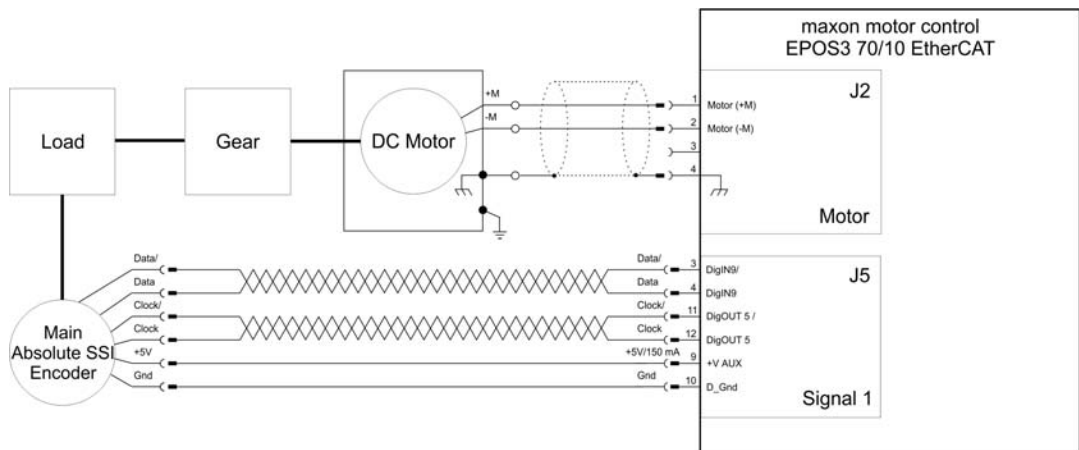

Figure 9-101 Example 1 – Wiring Diagram
- 1) Wire the system according to the wiring diagram (→ Figure 9-101).